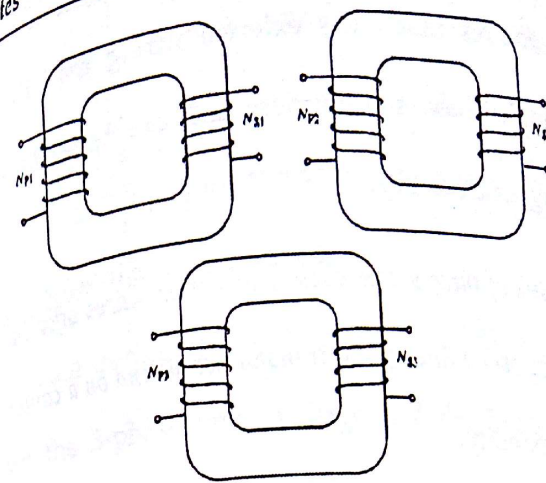

Fig. 4.1. A three-phase transformer bank.
1. By suitably connecting a bank of three single-phase transformers [shown in Fig. 4.1], or